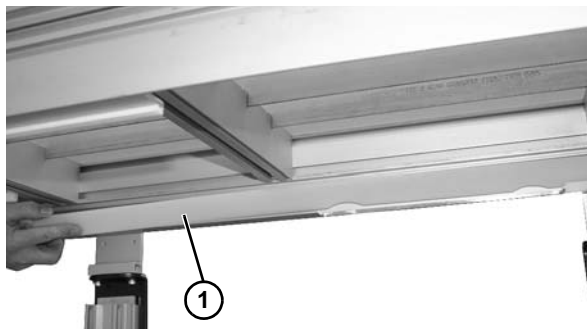

Figure 46
2. Slide lower vertical wear strips (**Figure 46, item 1**) into frame assembly from end of frame.